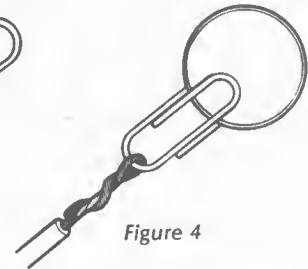

Figure 4
- (4) Clip a nail onto paper clips one, three and five. Onto the remaining clips (two, four and six) clip your shiny two cent coins as shown in figure 4.
- (5) Half fill your glasses with beer. Keeping all the coins and nails on the clips, lower them into the beer. Clips one and two go in the first glass, three and four in the second glass, five & six in the third glass.
- (6) Try not to let any of the paper clips touch the beer. If you do, the power available from the beer cell will be drastically reduced. Submerge only as much of each coin and nail as you can without getting the clip wet. Hold the coins and nails in the right place by bending the wire sharply back over the lip of the glass.